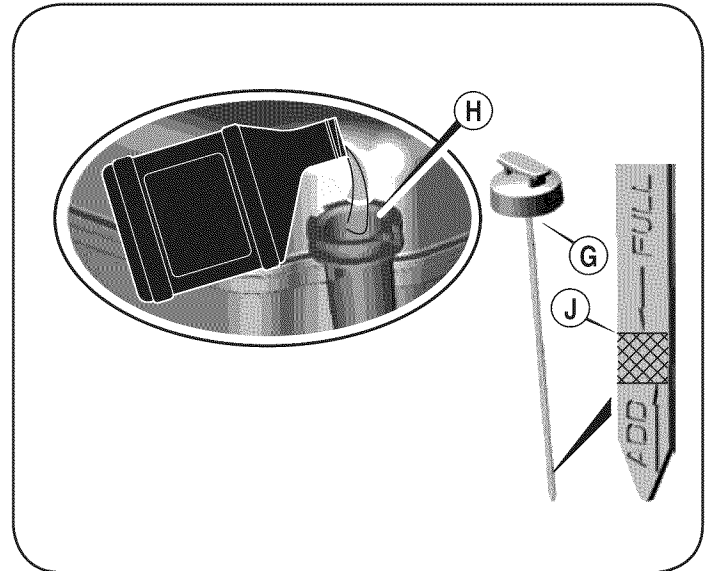

Figure 11
1. Remove oil fill dipstick (G). See Figure 11.
2. With the mower on level ground, empty entire contents of oil bottle provided into the engine oil fill (H).
3. Insert and tighten the oil fill dipstick. Remove it to check the oil level. See Figure 11.
4. If the oil level is near or below the lower limit mark on the dipstick, remove the oil fill dipstick, and fill with the recommended oil to the upper limit mark (J). Do not overfill.